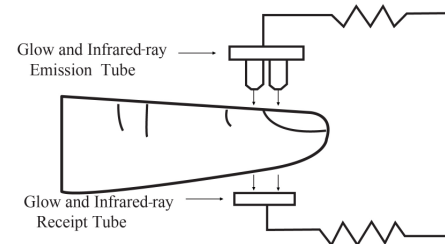

Figure 1 Operating principle
- The finger should be placed properly such that it is exactly in between the infra-red Emission tube and infra-red sensor (see the attached illustration of this manual, Figure 1 & 5), or else it may cause inaccurate measurement.